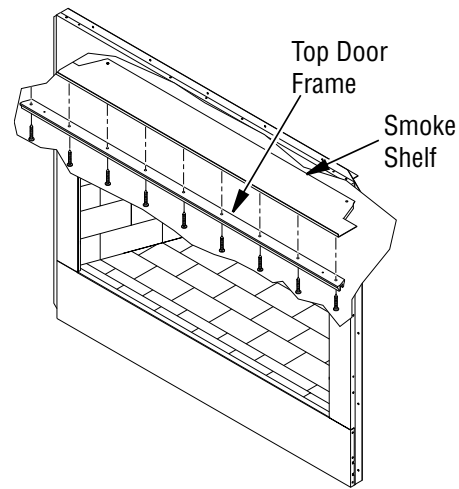

Figure 39 - Installing Top Door Frame
1. Remove screws from smoke shelf (see Figure 39).
2. Mount top door frame and secure with screws provided (see Figure 39).